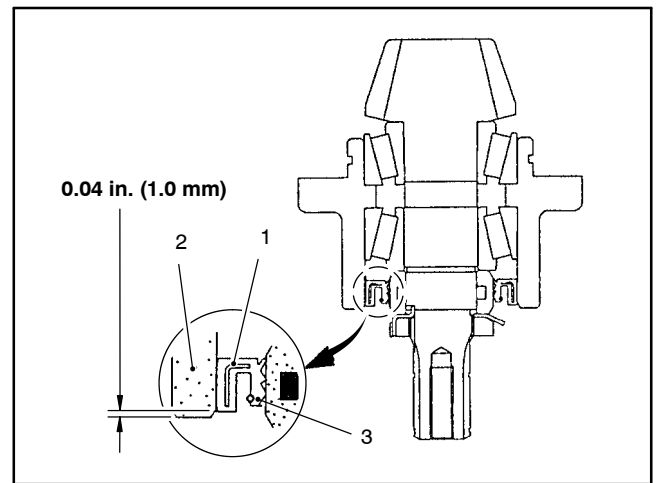

Figure 27
3. Coat a new oil seal with grease and install as shown (Fig. 27). The seal should be installed with the garter spring towards the hydraulic motor.